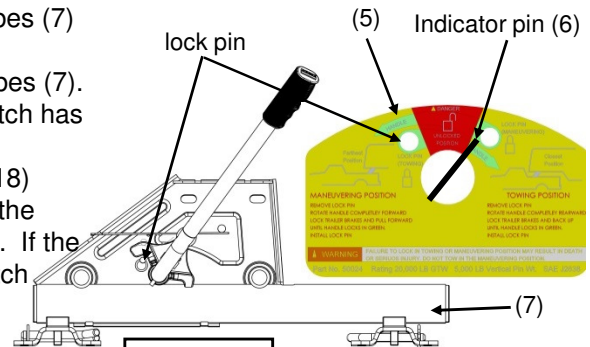

Figure 18
5. Return to truck. Release emergency brake. Manually engage trailer brake and back truck rearward until REESE™ FIFTH Wheel Slider stops near the bolt on foot (Figure 12) and the latch engages in the towing position (see Figure 18).
- B. If Slider does not move, the latch has engaged the tubes (7) and Slider should be engaged in the towing position.
- C. If Slider does move, the latch has not engaged the tubes (7). **DO NOT TOW!** Repeat steps 1 - 6 above until the latch has engaged the tube (7).
- D. Install lock pin completely in towing hole. (see figure 18)
7. Examine the warning label (5). Indicator pin (6) should now be over the green range on the right side of the warning label (5) (see Figure 18). If the indicator (6) pin is over the red range on the warning label (5), the latch has not engaged the tubes (7). **DO NOT TOW!** Repeat steps 1- 6 above.